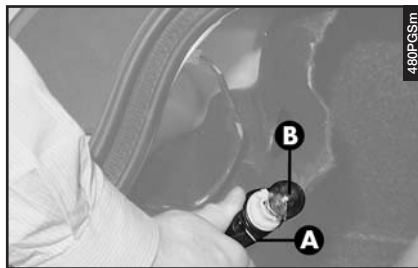

fig. 59
## DIRECTION INDICATORS AND SIDE LIGHTS/STOP LIGHTS (fig. 59)
- Remove the bulb holder (A-fig. 59) turning counter-clockwise.
- Remove and replace the bulb (B) (spherical type with bayonet coupling) pushing gently and turning counter-clockwise.